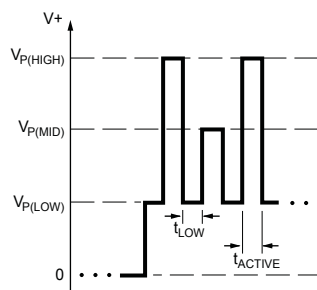

Figure 1. Voltage pulse sequence required to select the first programmable register in the first zone.
To select the register in the first zone, a sequence of one V_{PH} pulse, the key for the register, and a second V_{PH} pulse (with no VCC supply interruptions) must be applied serially to the VOUT pin. The pulse train used for selection of the first register, key 1, is shown in figure 1.